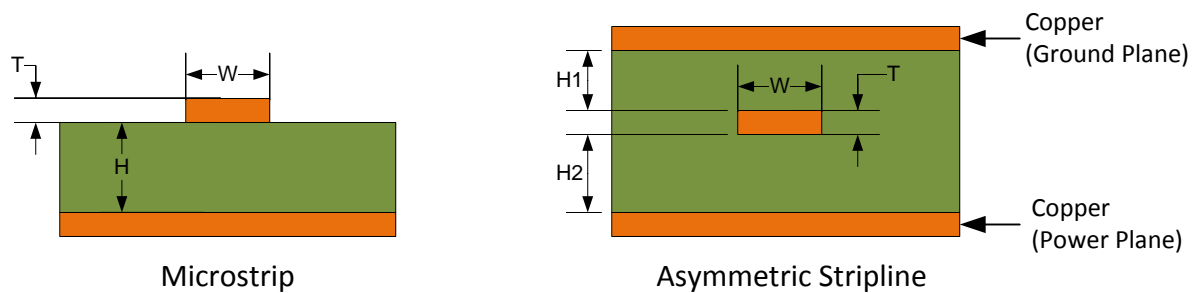

Figure 7. Transmission Line Type
- These internal layers (3 and 4) are considered asymmetric stripline relative to the ground and power planes (layers 2 and 5, respectively) (see Figure 7). The calculations for impedance of traces on these layers are different from the calculations for layers 1 and 6.
The first step in calculating these single-ended trace properties is to identify the transmission line type of the trace. The microstrip transmission line type (see Figure 7) is most common on two-layer and four-layer boards as well as layers 1 and 6 of six-layer boards. The asymmetric stripline transmission line type is most common on layers 3 and 4 of six-layer boards.